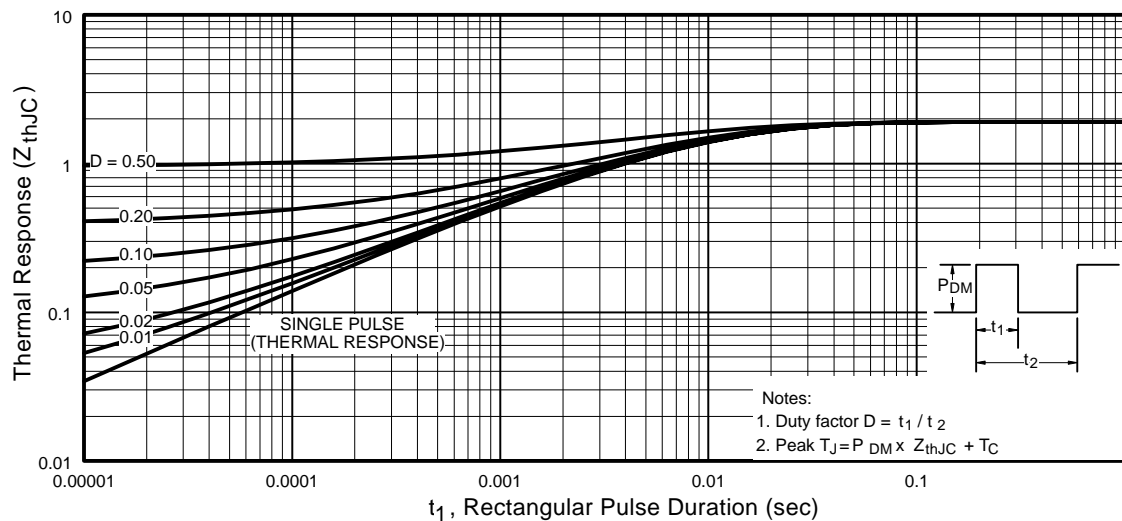

Fig 11. Maximum Effective Transient Thermal Impedance, Junction-to-Case
- ① Repetitive rating; pulse width limited by max. junction temperature. (See fig. 11)
② $V_{DD} = 25V$, starting $T_J = 25^\circ\text{C}$, $L = 3.1\text{mH}$